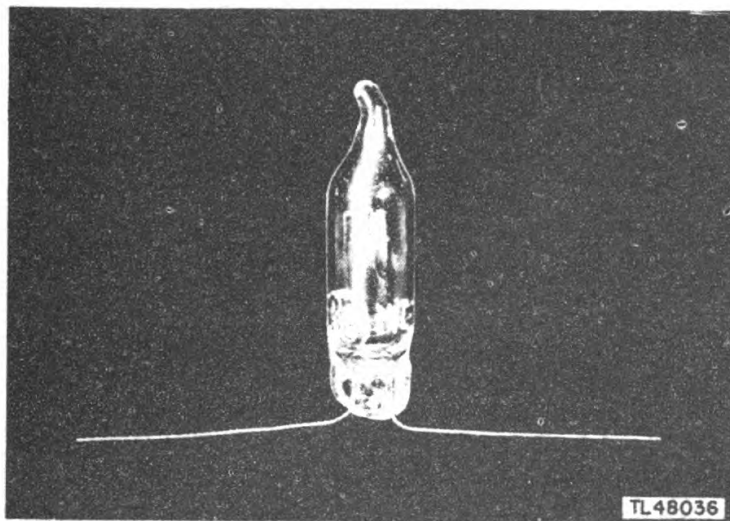

Figure 21. Typical neon lamp.
19. NEON LAMPS AND CASE (figs. 21 and 22).